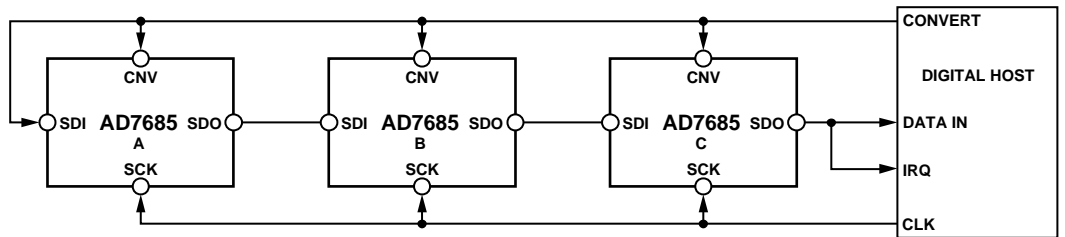
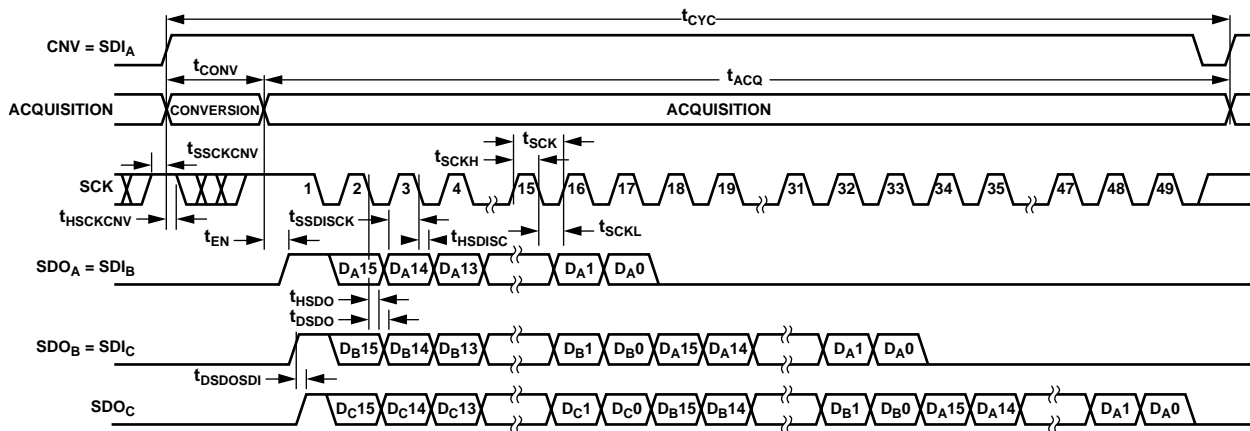

Figure 43. Chain Mode with BUSY Indicator Connection Diagram
Figure 44. Chain Mode with BUSY Indicator Serial Interface Timing
- In the chain mode, if SCK is high during the CNV rising edge (Figure 44).
A connection diagram example using three AD7685s is shown in Figure 43 and the corresponding timing is given in Figure 44.
Figure 43) SDO is driven high. This transition on SDO can be used as a BUSY indicator to trigger the data readback controlled by the digital host. The AD7685 then enters the acquisition phase and powers down. The data bits stored in the internal shift register are then clocked out, MSB first, by subsequent SCK falling edges. For each ADC, SDI feeds the input of the internal shift register and is clocked by the SCK falling edge. Each ADC in the chain outputs its data MSB first, and  $16 \times N + 1$  clocks are required to readback the N ADCs. Although the rising edge can be used to capture the data, a digital host also using the SCK falling edge allows a faster reading rate and, consequently, more AD7685s in the chain, provided the digital host has an acceptable hold time. For instance, with a 5 ns digital host setup time and 3 V interface, up to eight AD7685s running at a conversion rate of 220 kSPS can be daisy-chained to a single 3-wire port.